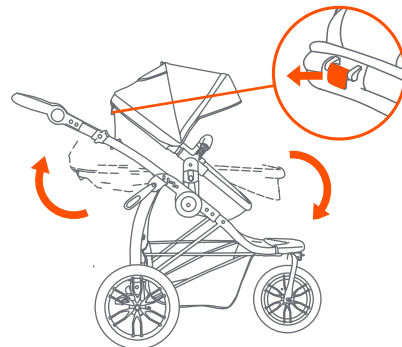

Fig. 11a
11) • The seat can be adjusted into upright, reclined, and carriage position. Pull the recline button on the rear of the seat and rotate the seat into the desired position (Fig. 11a).